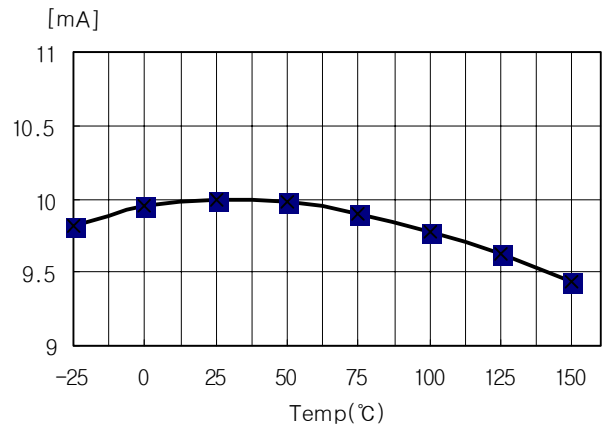

Figure 2. Operating Supply Current vs. Temp.
2. Feedback Control : The FS6X1220R employs current mode control. The voltage of the feedback pin is compared with the current sense voltage for pulse width modulation (PWM). Figure 2 illustrates the simplified PWM block. The feedback voltage determines the peak drain current of the SenseFET. Usually opto-coupler along with TL431 are used to implement feedback network. The collector of the opto-coupler transistor is connected to feedback pin and the emitter is connected to the ground pin. When the voltage of the reference pin of TL431 exceeds the internal reference voltage of 2.5V, the opto-coupler diode current increases, pulling down the feedback voltage.
3.1 Pulse-by-pulse current limit : As shown in figure 2, the drain current of the power MOSFET is limited by the inverting input of PWM comparator (V_{fb}^*). Assuming that the 0.9mA current source flows only through the internal resistor ($28R + R = 2.9k$), the cathode voltage of diode D2 is about 2.6V. Since D1 is blocked when the feedback voltage (V_{fb}) exceeds 2.6V, the maximum voltage of the cathode of D2 is 2.6V. Therefore, the maximum value of V_{fb}^* is about 0.1V, which limits the peak value of the power MOSFET drain current.